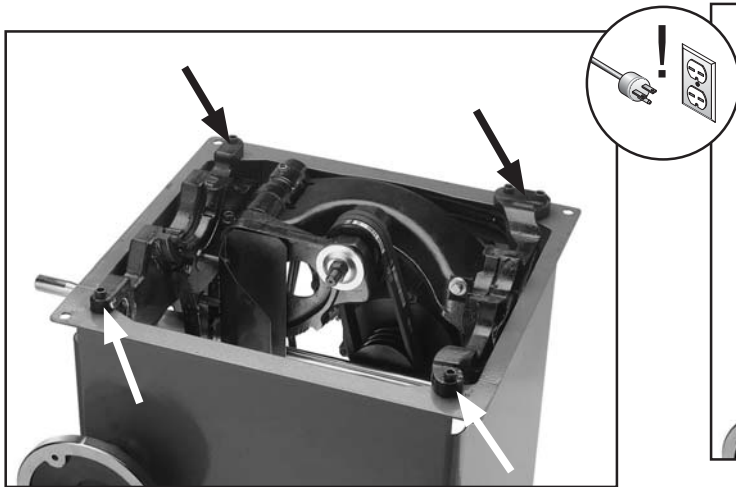

Figure 79. Trunnion mounting bolts.
3. Loosen the four trunnion mounting bolts as shown in **Figure 79**, and nudge the trunnion to either the left or the right depending on where the blade is hitting the saw.